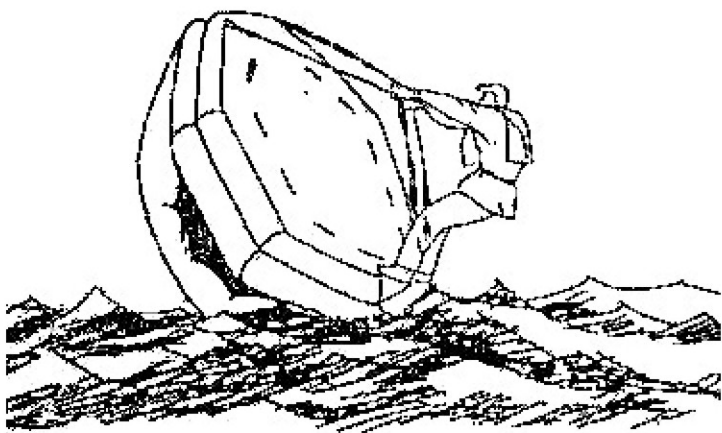

Fig. 3 Righting
2.5 If the liferaft is in the upside down position after it is lowered to the water and inflated to its full shape, it shall be righted by one person first and then the operation should be done as per Para. 2.4. In writing process, the operator shall stand close to the CO₂ cylinder side of liferaft, and takes a strong tug on the righting tape to right the liferaft (see Fig. 3). It's easier for operator to right liferaft with the wind.